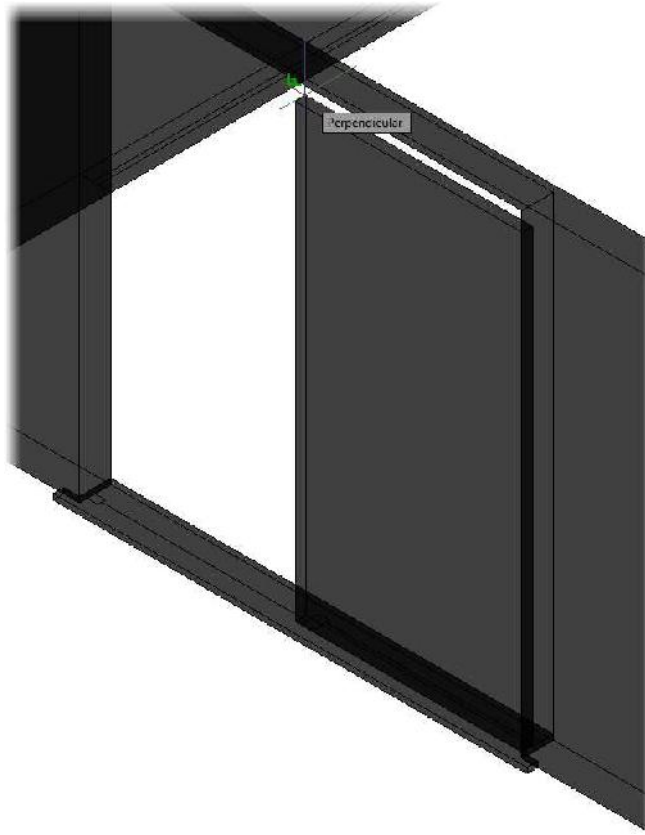

FIGURE 16.48: Using the Perpendicular osnap to choose the door height
5. Specify the height of the door by using the Perpendicular osnap, as shown in Figure 16.48, to pick one of the upper doorframe edges.